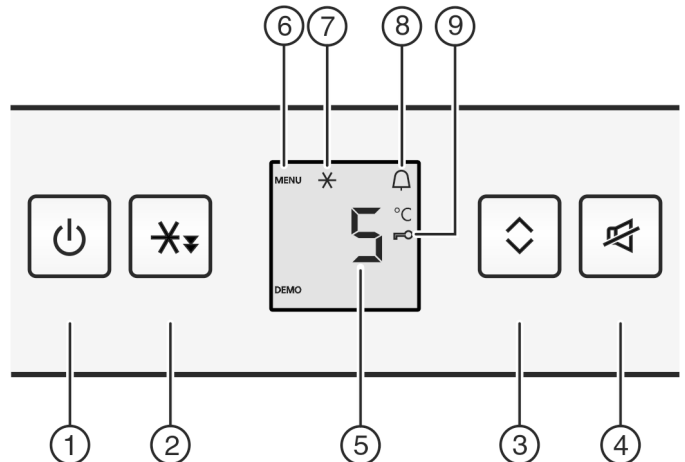

Fig. 2
- ▶ Press the On/Off button Fig. 2 (1).
- ▶ Press the Quick Cool button *Fig. 2 (2)* for around 5 seconds.
- ▷ The Menu symbol is shown on the display, *Fig. 2 (6)*.
- ▶ Confirm by briefly pressing the Quick Cool button *Fig. 2 (2)*.
- ▷ The child lock symbol, *Fig. 2 (9)*, lights up on the display.
- ▶ Briefly press the On/Off button *Fig. 2 (1)*.
- ▶ Press alarm button *Fig. 2 (4)*.
- ▶ Briefly press the Quick Cool button *Fig. 2 (2)*.
- ▷ The QuickCool *Fig. 2 (7)* symbol lights up on the display.
- ▷ The Quick Cool *Fig. 2 (7)* symbol dims on the display.